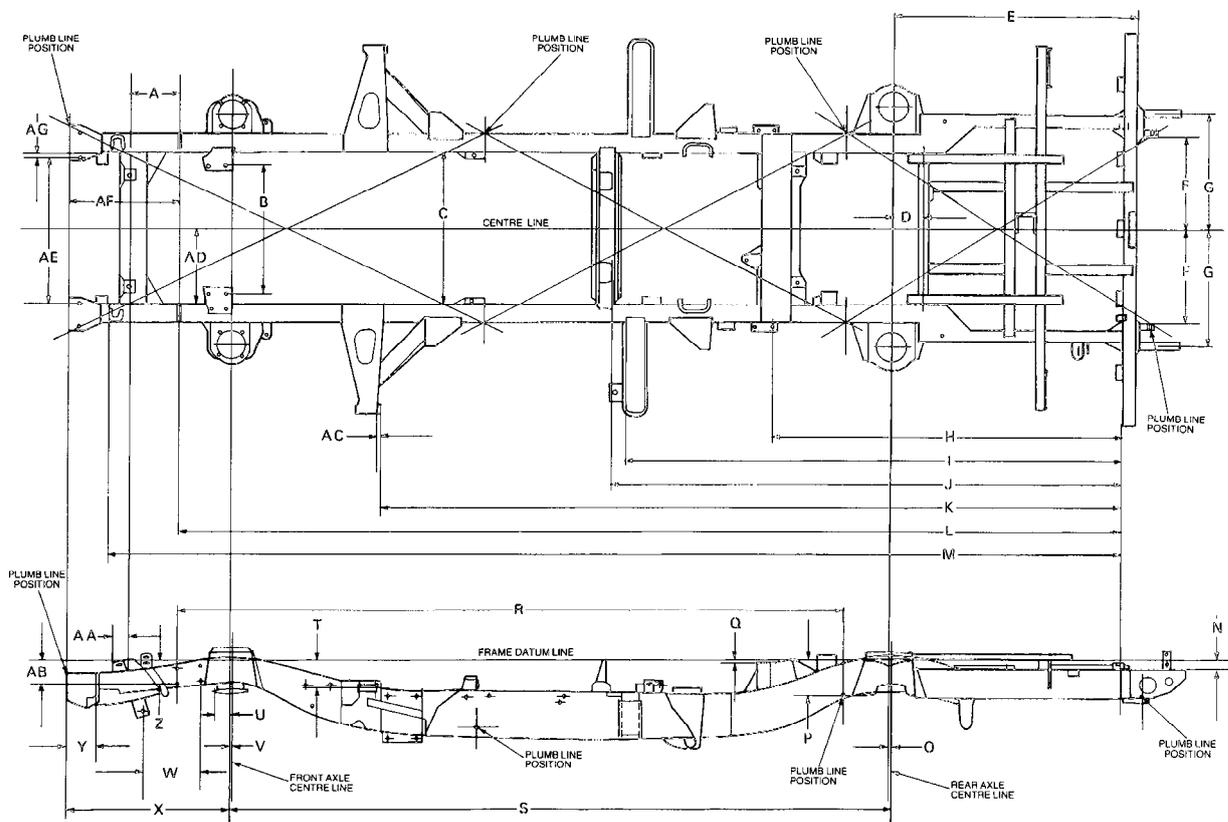

Figure 311 Frame Alignment
- a. Place the assembled vehicle on a level floor and hold a plumb line against one of the points shown in Figure 311. Mark the point with chalk directly below the plumb-bob. Repeat the procedure for the remaining points to determine the frame squareness.
- d. Side rail checks can be made while referring to Figure 311.